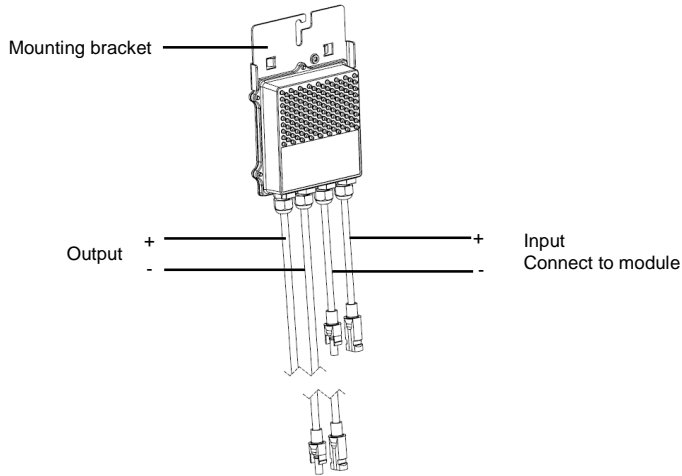

Figure 1: Power optimizer connectors
- 1 Determine the power optimizer mounting location and use the power optimizer mounting brackets to attach the power optimizer to the support structure (see Figure 1).